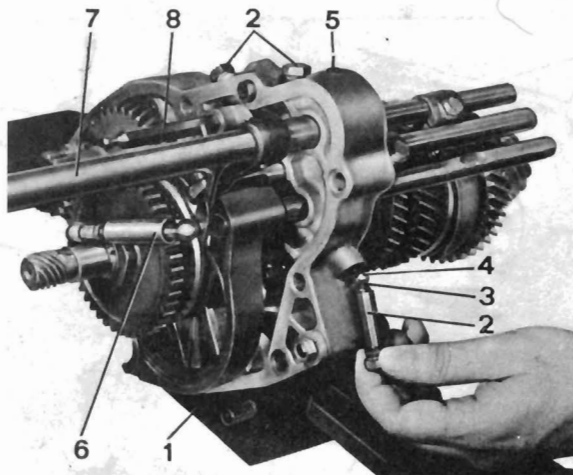

Fig. 7.9 Selector components (Sec 7)
- 28 On some early model gearboxes (refer to Fig. 7.9), the selector components included a balljointed link rod and a return spring. The retaining pillar for the ends of the centralising spring was also hexagonal in shape. These features are not found in the later type gearbox.